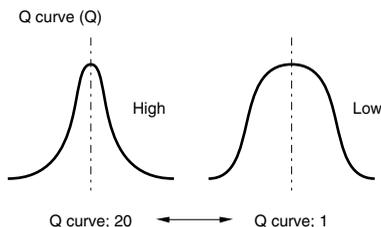

Figure 2
For the Q-curve (Q), setting larger values makes the curve sharper, setting smaller values makes the curve flatter. (Figure 2)